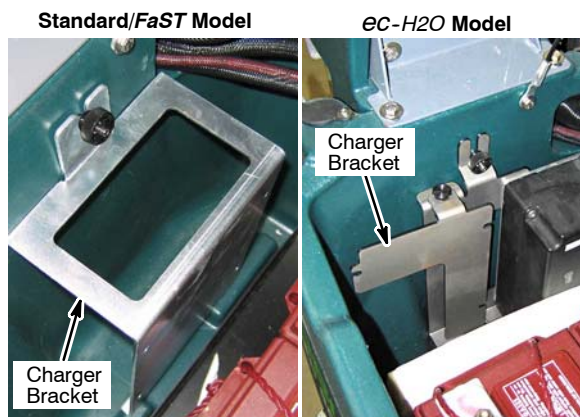

Fig. 8
9. Remove the charger bracket from the battery compartment (Figure 8).